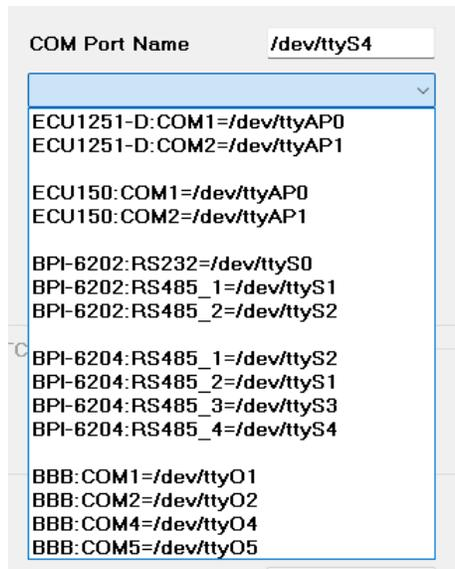

Figure 3
**COM Port Name:** Specify the full serial port name used by the controller. The dropdown list provides predefined serial port names for different supported controllers. (See Figure 3.)